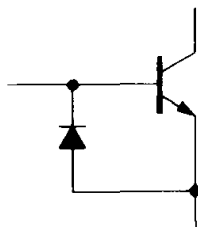

Figure 2.10. A diode prevents base-emitter reverse voltage breakdown.
2. Always remember that the base-emitter reverse breakdown voltage for silicon transistors is small, quite often as little as 6 volts. Input swings large enough to take the transistor out of conduction can easily result in breakdown (with consequent degradation of h_{FE}) unless a protective diode is added (Fig. 2.10).